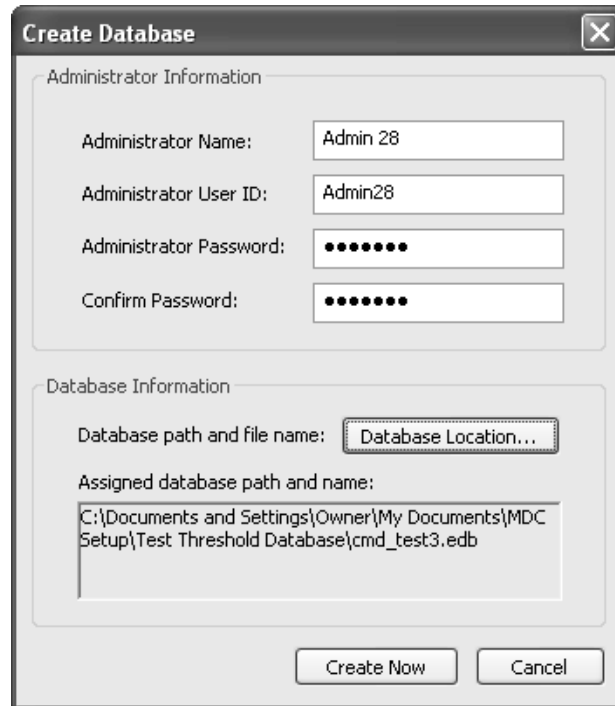

Figure 8-2: The Create Database Window
- 2) Click the **Create Database** button in the **Administrator Logon** window. This opens the **Create Database** window. (Figure 8-2)